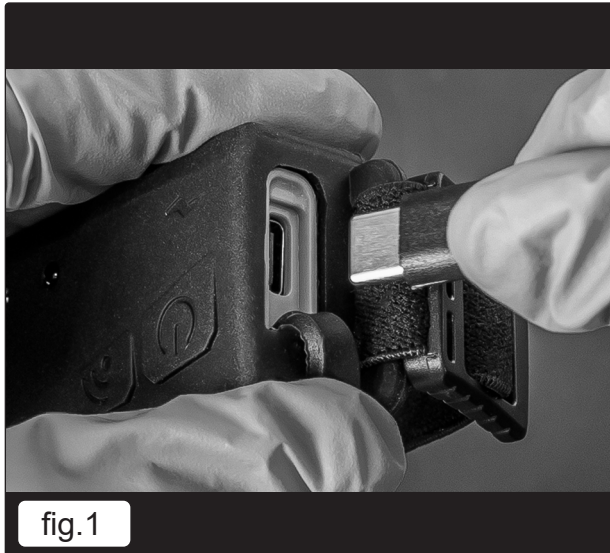

fig.1
- 4.1. Remove USB cover on the rear of the lamp unit to reveal the USB charging point and insert the power cable. Fig.1